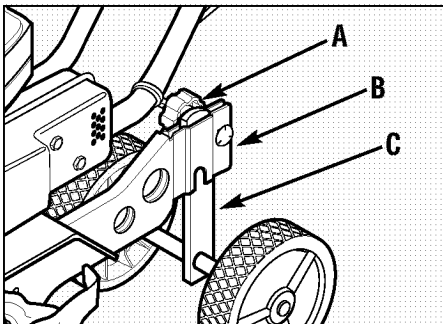

Figure 6
- a. Loosen tilling depth adjustment knob (A, Figure 6).
- b. Move wheel bracket (B, Figure 6) up in relation to the height adjustment bar (C). Moving the bracket upward results in shallower tilling, which is recommended for initial use.